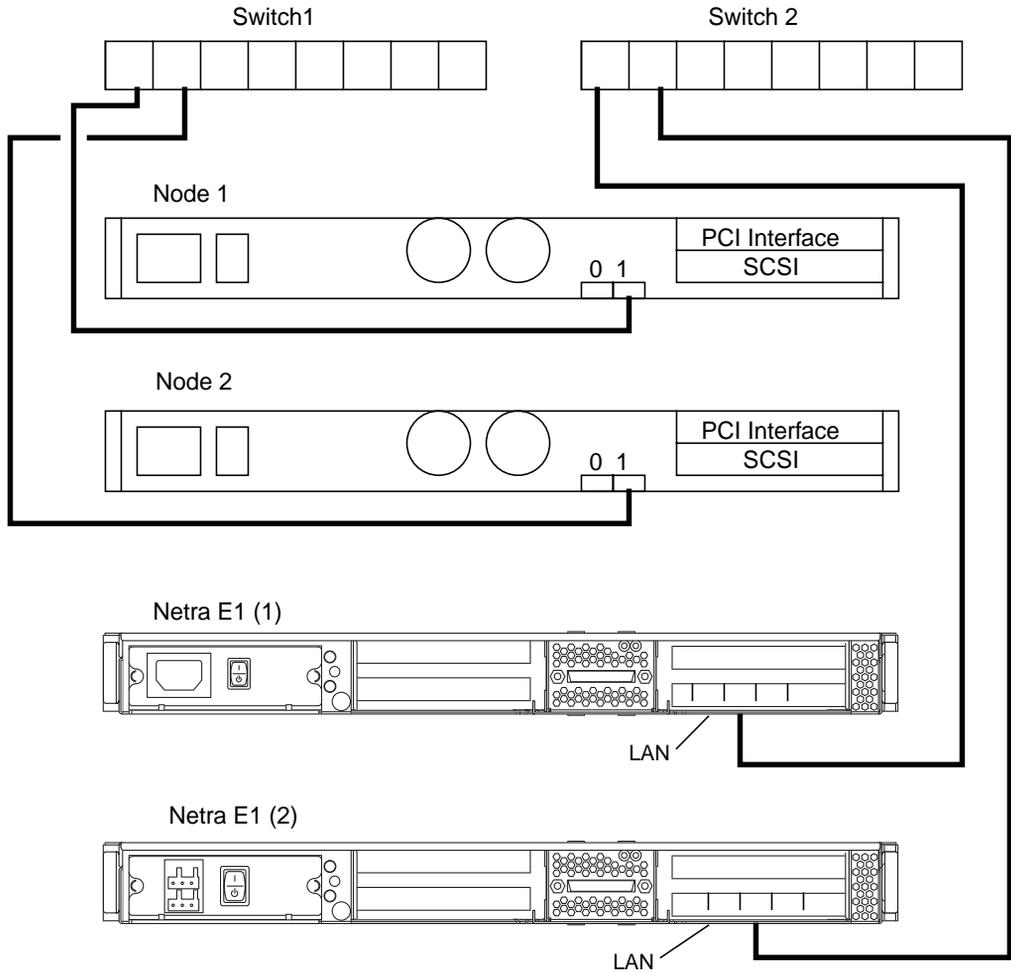

FIGURE 10-3 Example of Ethernet cabling for an Mirrored Pair Using E1 Expanders
2. Connect the Ethernet cables between the host enclosures, Netra E1 PCI expanders, and Ethernet switches, as shown in FIGURE 10-3.